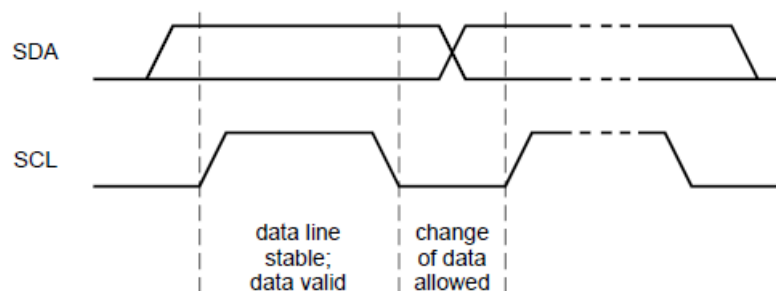

Fig.3.2 Valid Data
- Valid data: The data on the SDA line must be stable during the high period of the SCL clock. Within each byte, MSB is always transferred first. Read / Write control bit is the LSB of the first byte. Please refer to Figure 3.2.